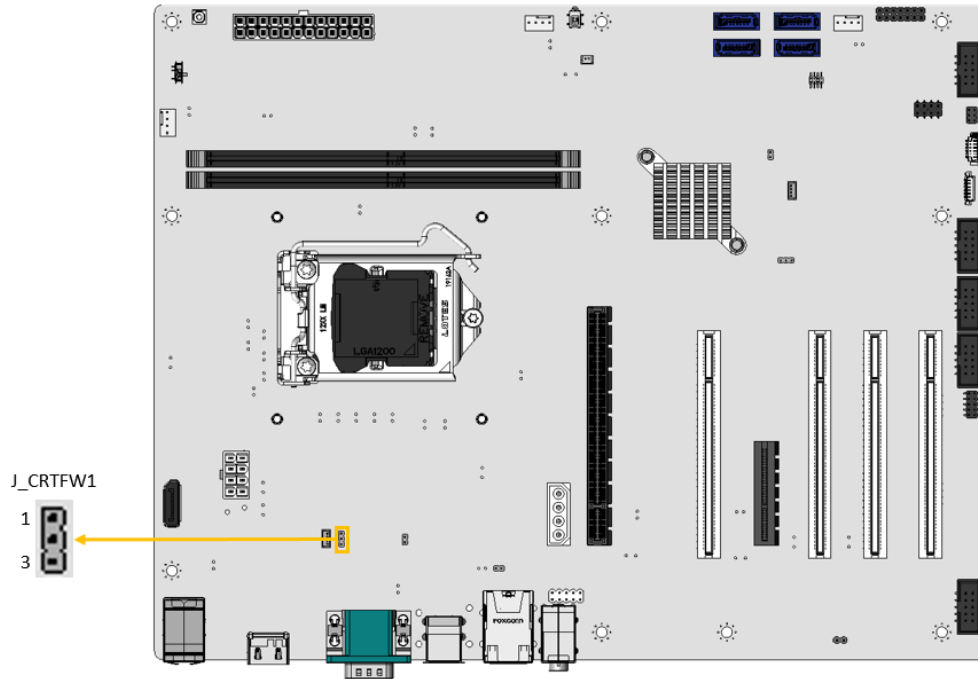

Figure 3-29: VGA Firmware Refresh Connector Location
- CN Location:** See Figure 3-29